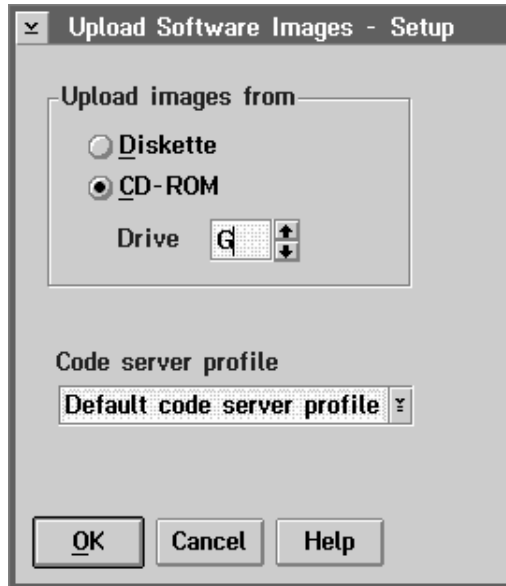

Figure 151. Upload software images – setup window
- 1 In the CID Software Preparation window, double-click on **Upload Software Images**. The Upload Software Images – Setup window is displayed, as shown in Figure 151 on page 227.